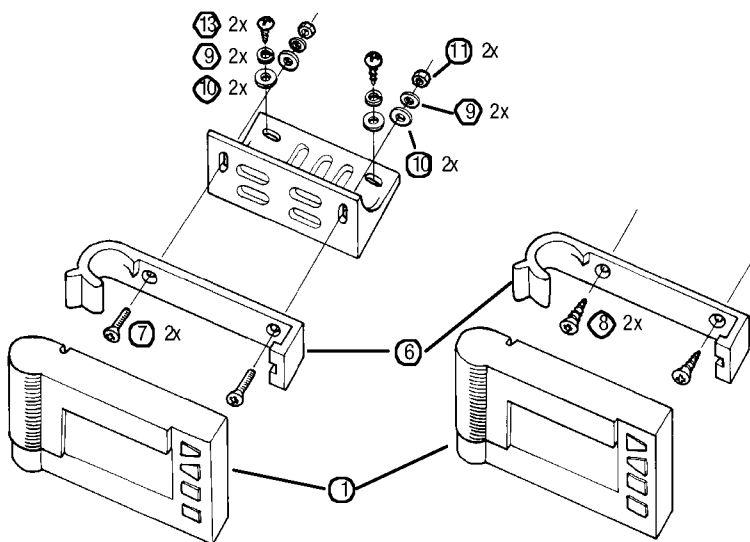
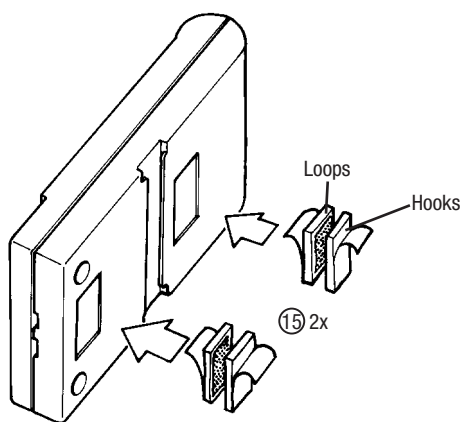

Figure 3: Bracket Mounting Options
Figure 5: Applying VELCRO
- Mount your display to the dash or center console. Choose a location and decide how you want to mount the display: directly to the surface or using the mounting bracket (6) and right angle adapter bracket (12). Then, decide how you want to attach the display or the brackets: using VELCRO tape (15), double-sided foam tape (14), or screws. Apply the two adhesive-backed loop tapes to the flats on the back of the display (Figure 5) or to the back of the brackets. With the hook tapes attached to the loop tapes, press adhesive backing of the hook tape onto your selected mounting surface. Do not separate hook and loop tape for at least 24 hours after applying. Attach the mounting bracket to the right angle adaptor bracket (12) with hardware provided as needed (Figure 3). Mount the reversible right angle adaptor bracket to desired location with hardware provided. Apply the double-sided foam tape to mount the brackets if desired.